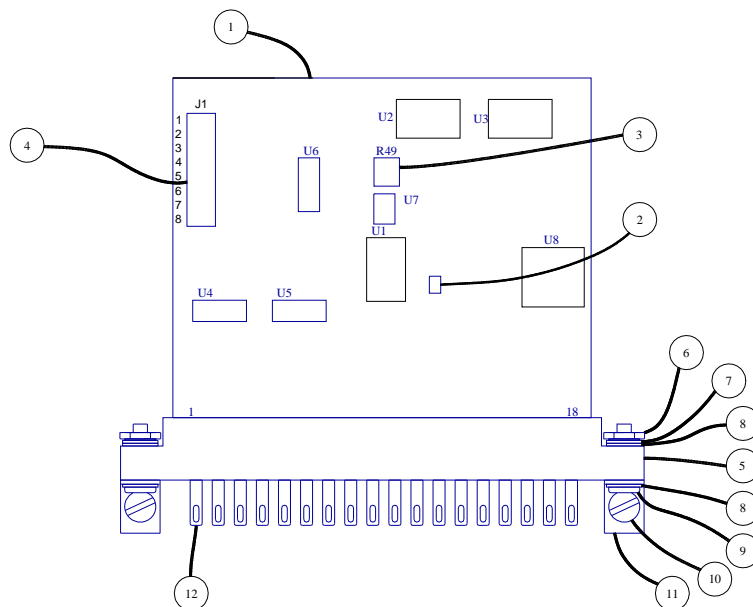
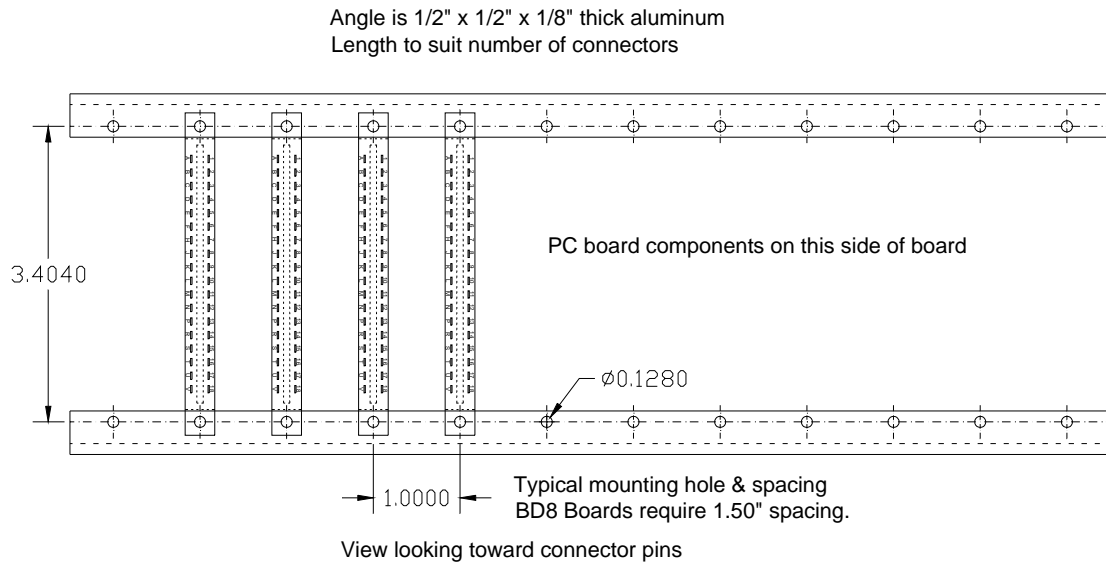

Figure 5-1 MSC Physical Installation
Figure 5-2 Group Mounting of PC Boards
Having completed the planning of your installation, it's now time to install your MSC. If you have a large number of boards, or you want them all installed in a central location, check Figure 5-2 for one possible approach. Otherwise, use the single board installation approach shown in Figure 5-1.
Figure 5-1 MSC Physical Installation below shows how your MSC and related items will look when ready for installation. For your reference, the major items are identified individually. The mode plug and its jumpers (item 4), the board activity indicators LED (item 2), and the yellow tint control (item 3), are the only board mounted parts of interest to you. The on-board voltage regulator U8 will normally get warm during operations, especially if your signals use a lot of LED's.
If you have a lot of MSC's in your layout, you may find it more convenient, when installing and wiring them, to mount them in a group so that all of the connector pins are readily visible and easy to reach. One way to do this is to prepare a pair of aluminum angles, ½" x ½" by whatever length you need to mount the group of MSC's. Figure 5-2 shows one way to mount a group of our boards. Our MSC, BD8, GCC and GCX boards all use the same connector, and can be mounted as shown. The end holes in the angles are used to mount the angles to bench legs or some other type of support frame. When mounted this way, the PC boards should be in a vertical plane to allow for better cooling. Note that, because of a heat sink, a BD8 mounted in such a group needs a 1.5" spacing on the component side of the board.
To see if all is well, plug in the wall module. The MSC board activity LED, item 2 in Figure 5-1, should blink about 2 times per second. If it doesn't, there are a couple of possible problems. First, the socket you plugged into must be on. Second, the wires to pins 18 and V may be reversed. Finally, there may be a short circuit on one of your connections to the card edge connector. Track down the problem before continuing.
An adjustment is available on the board so you can adjust the yellow tint to get the most acceptable results. This potentiometer is shown as 'R49' in Figure 5-1.